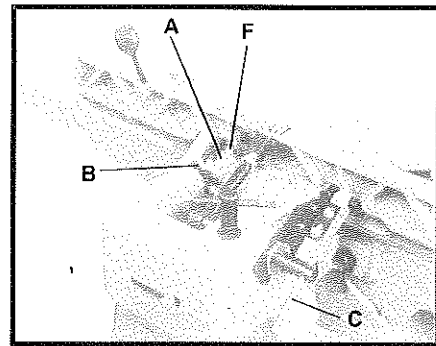

Fig. 18
1. The operator must engage screw (A) to plate (B) before adjusting the 90° angle between the fence and the table.
2. Tighten fence lock lever (C) (Fig.18).